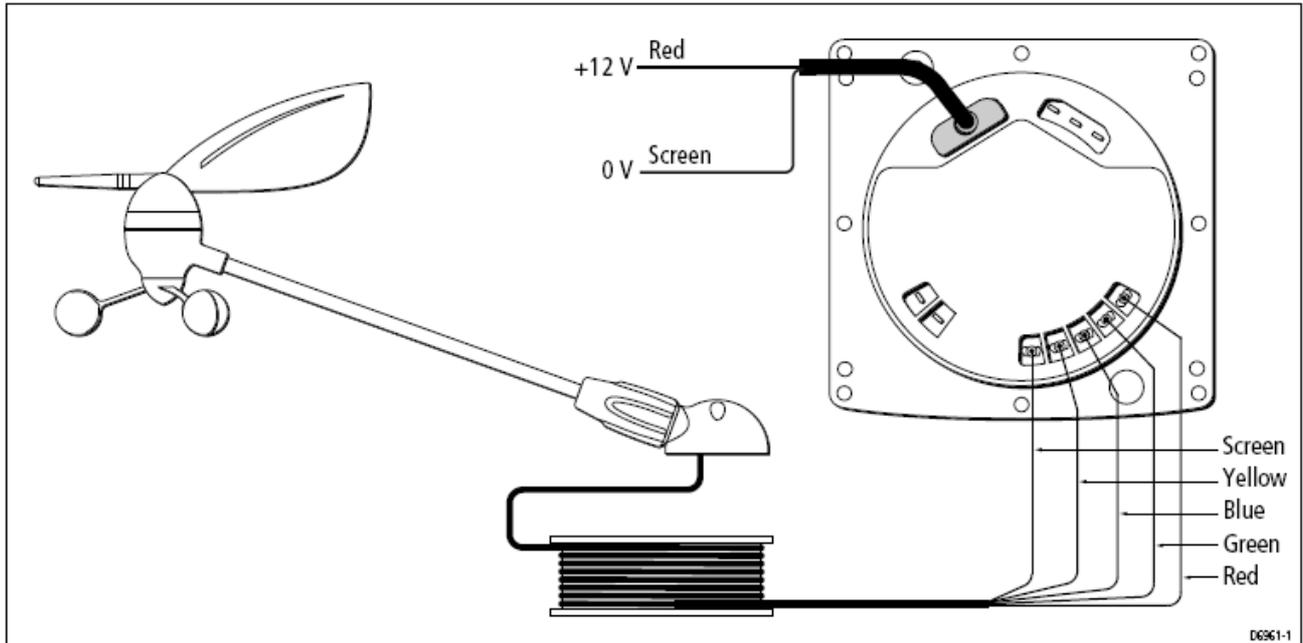

Figure 1: Test connections
1. Connect the wind vane to a serviceable ST60 Wind instrument as in Figure 1.